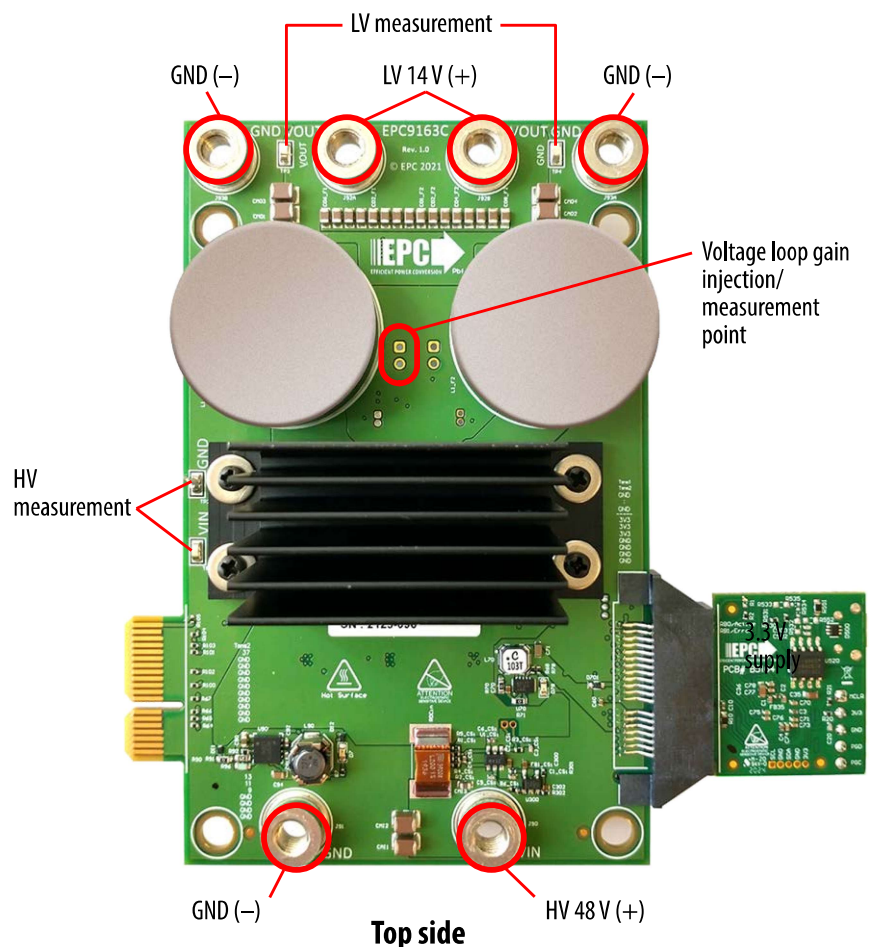

Figure 2: EPC9163 test point pad and hookup locations and designations
- Buck mode:** power supply connects to HV 48V (+) and GND (-); load connects to LV 14V (+) and GND (-), as shown in figure 2.
- Boost mode:** power supply connects to LV 14V (+) and GND (-); load connects to HV 48V (+) and GND (-), as shown in figure 2.